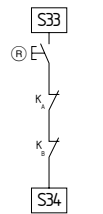

Fig. 3
**External reset button (with edge detection) (see Fig. 3)**
**Feedback loop (see Fig. 3 and 4)**